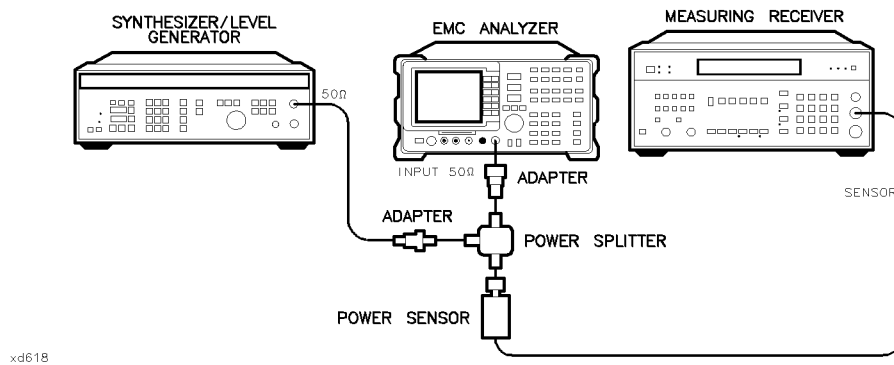

Figure 2-30. Frequency Response Test Setup, <50 MHz, HP 8595EM
27. Connect the equipment as shown in Figure 2-30, with the power sensor connected to power splitter.